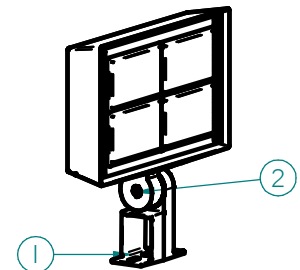

FIGURE 1
Trunnion Mount (Fig. 1):
- Use a minimum of two 3/8" diameter bolts or one 3/4" diameter bolt for mounting (Item 1 in Fig. 1).
- Loosen the bolt (Item 2 in Fig. 1) on the knuckle using a 3/8" hex key to allow the fixture to be aimed up or down.
- Once the fixture is aimed at the desired target, tighten the bolt (Item 3 in Fig. 1) on the knuckle.